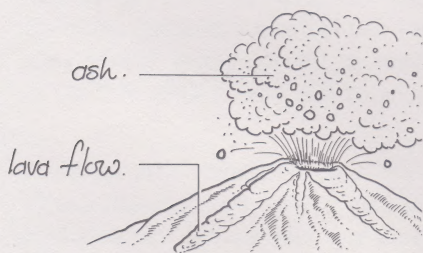

FIGURE 5 Igneous rock is formed from volcanoes.
- 2 **Igneous rocks**—these are formed as molten material becomes solid when it cools, either at the surface (Figure 5) or deep underground. (The word igneous comes from the Latin *ignis*: 'fire').